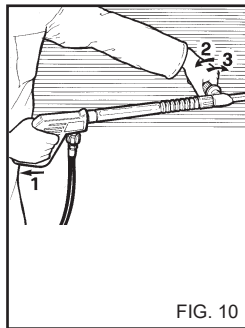

FIG. 10
**BRUKE DET DOBLE MUNNSTYKKET (fig. 10)**